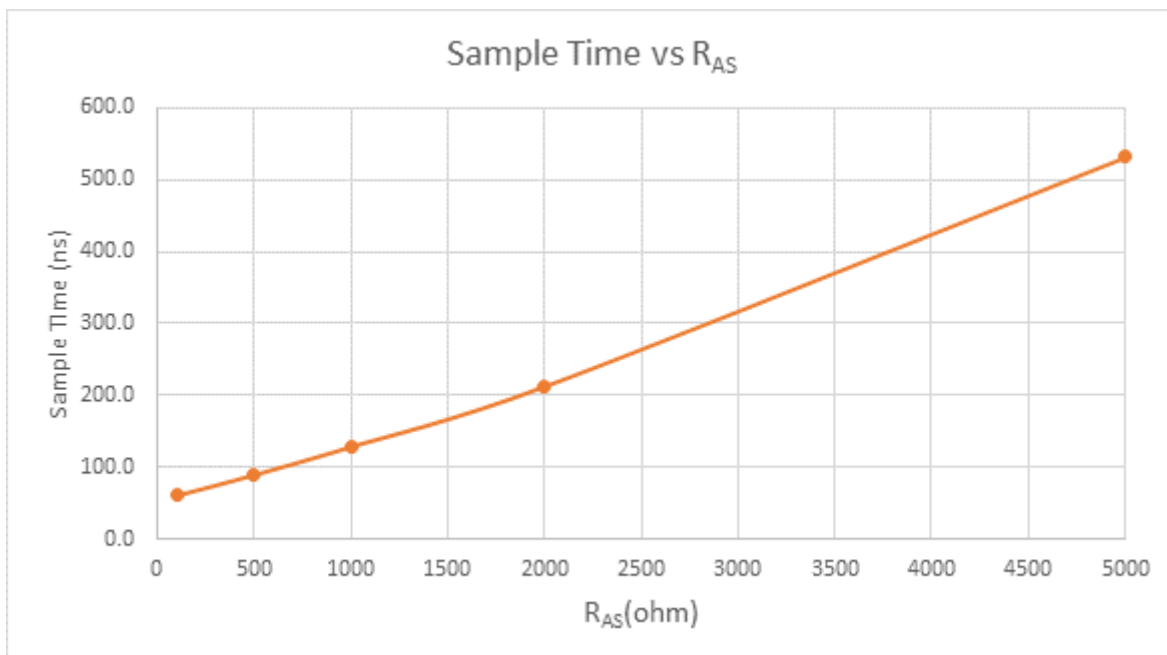

Figure 33. Sample time VS. R_{AS}
⁴ See Figure 33, "Sample time VS. RAS".
- 4 See Figure 33, "Sample time VS. R_{AS}".